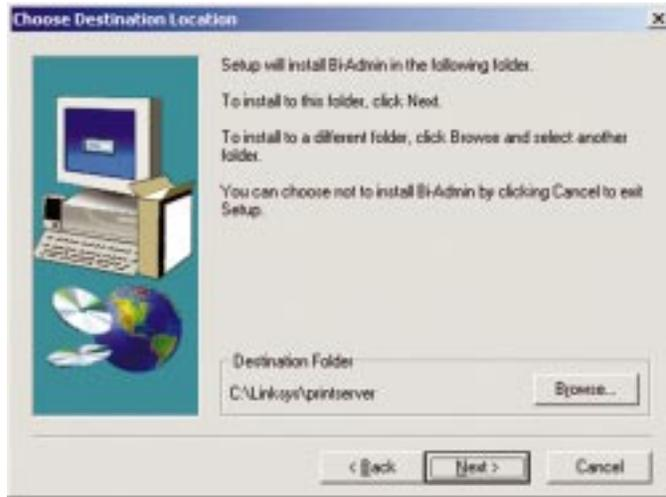

Figure 4-3
3. The next screen that appears, shown in Figure 4-3, will request you to choose a destination folder. You can either use the default folder by clicking the **Next** button or choose an alternate folder by clicking the **Browse** button and selecting a folder from the window that pops up. Click the **Back** button to take a step backward in the installation, or **Cancel** to forgo installation.